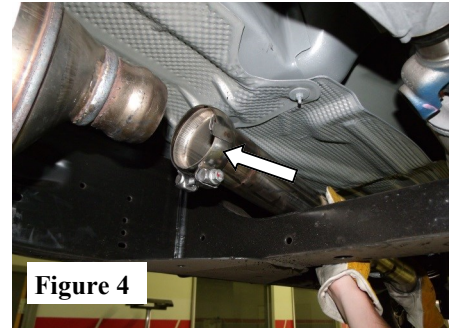

Figure 4
1. Using the original hardware, place the **Front Pipe Assembly** into position using the factory ball clamp. Install the hanger into the **Rubber Bracket**. (See Fig.4)